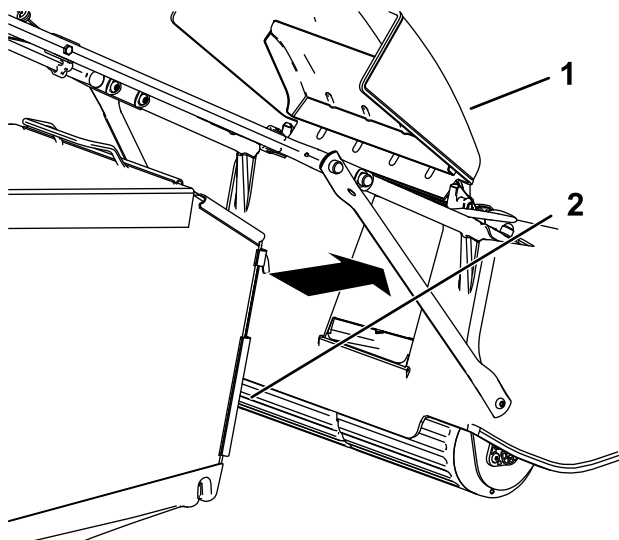

Figure 22
4. Install the grass bag into position (Figure 22).